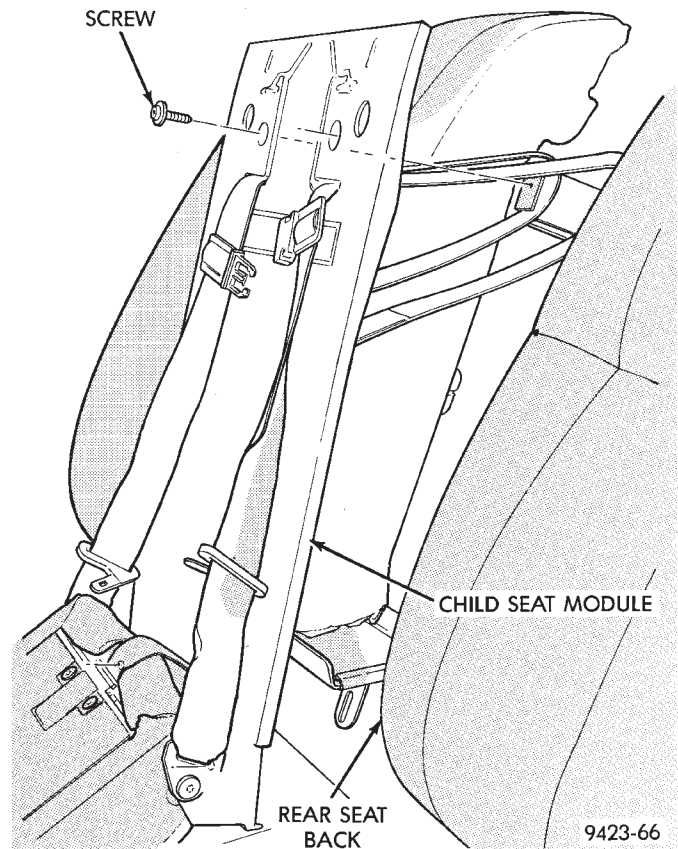

Fig. 7 Child Seat Module
- (1) Remove rear seat back from vehicle.
- (2) Slide lower bolster cushion retainer from channel on child seat cushion.
- (3) Separate lower bolster from seat child seat.
- (4) Remove liner from child seat module.
- (5) Disengage push-in fasteners holding upper bolster to child seat module above shoulder belts.
- (6) Remove screws holding top of child seat module to seat back frame from behind shoulder belts.
- (7) Remove screws holding bottom of child seat module to seat back frame (Fig. 7).
- (8) Separate child seat module from seat back.